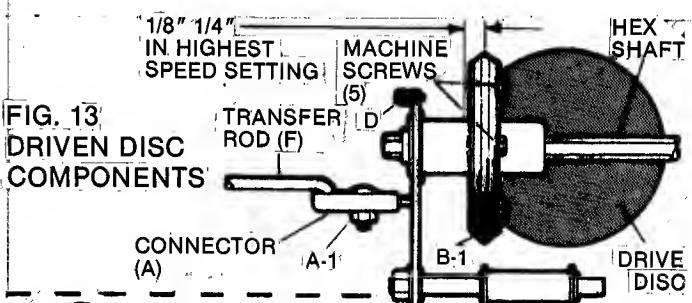

FIG. 13
DRIVEN DISC ADJUSTMENT: Stop the engine and shift the GROUND SPEED CONTROL (12) into the highest setting. The CENTER of driven disc should be $1/8$ " to $1/4$ " from the EDGE of the drive disc as shown in FIG.13. To re-adjust, loosen connector hex nut (A-1) and slide the driven disc in or out as required. Retighten connector hex nut to secure the driven disc in the proper position.